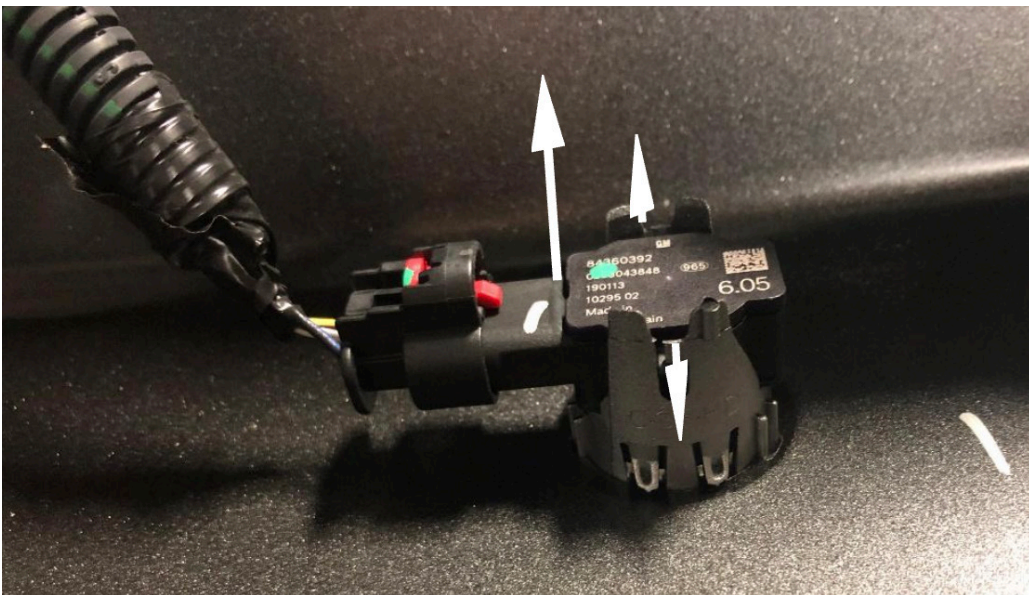

Figure 20
18. Carefully remove the four sensors and sensor housings from the bumper by spreading the housing clips out and pushing the sensor out simultaneously. (Figure 20)